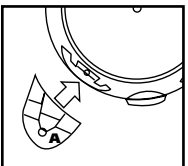

FIGURE 8
7. With tank drain facing you, take caster foot marked with the letter **A** and place into slot on left side of tank, also marked with the letter **A**. **FIGURE 8.**